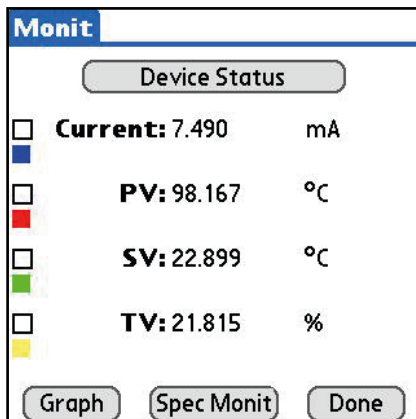
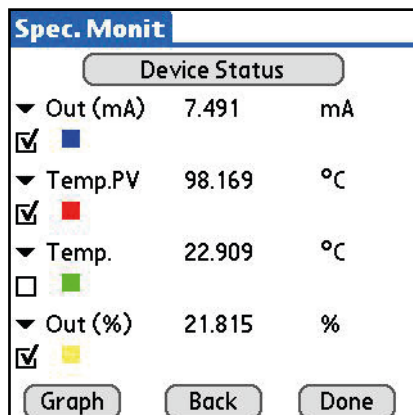

Fig. 12. - Variable Selection
Fig. 13. - Specific Monitor
2. Select the check boxes next to the variables you wish to graph. The color underneath each check box corresponds to the line color of the graph (Figure 12). If the device supports command 33 of the HART specification, variables other than the default may be graphed by selecting the "Spec Monit" button. From the specific monitor screen, 4 variables may be selected from the 4 drop down lists. Check the boxes for the variables you wish to graph (Figure 13).